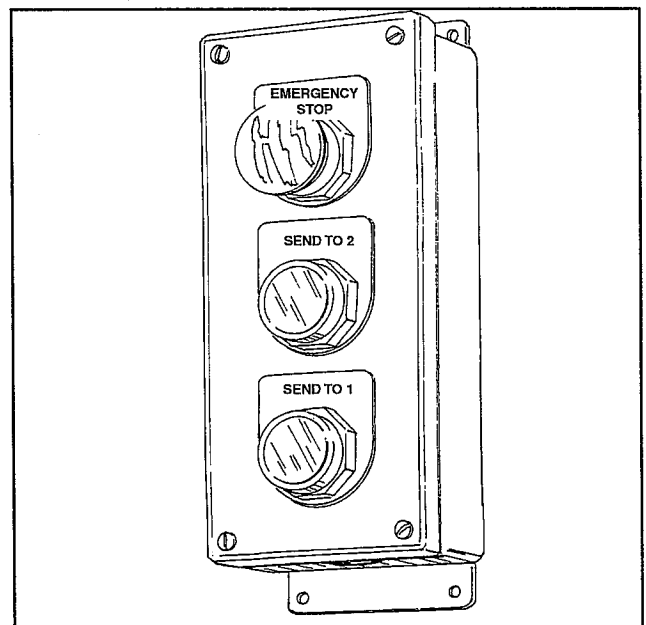

Figure 18
- If an emergency occurs when the carriage is moving, push the **EMERGENCY STOP** button. The button will keep the lift inoperative until the button is pulled back out. See Figure 18.